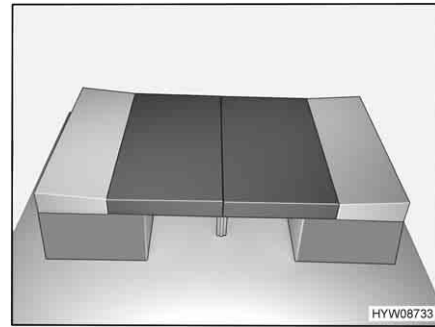

Fig. 90 After conversion
- Insert the back cushions between the seat cushions and the wall (see Fig. 90).